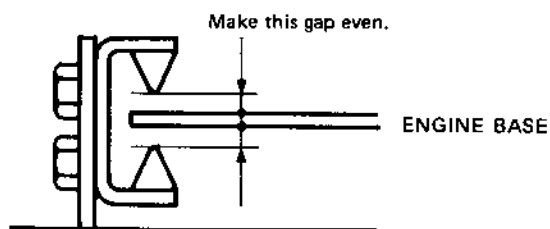

Fig. 10-40
- (5) Attach the stoppers to the frame.
**NOTE 1:** Set the stoppers so that the engine base is placed in the center of the upper and the lower rubbers. (See Fig. 10-40.)